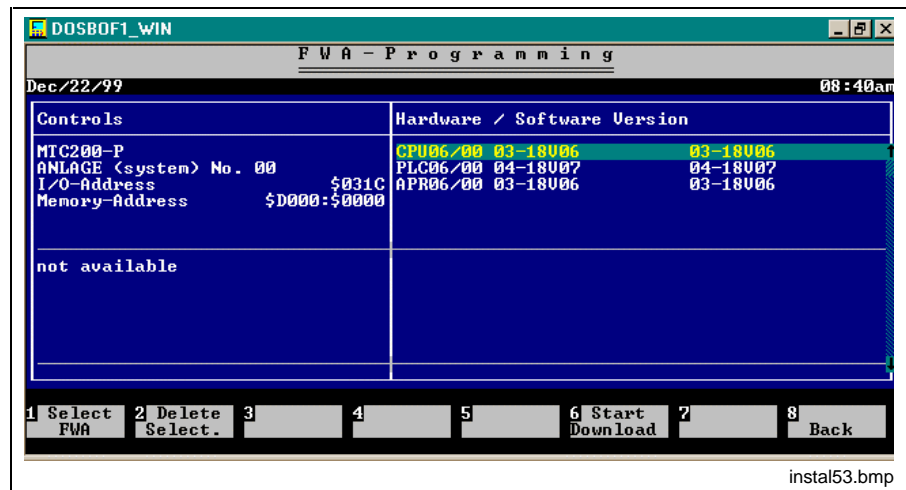

Figure 5-4: Transfer FWA programming data
- Figure 5-4: Transfer FWA programming data 5-4